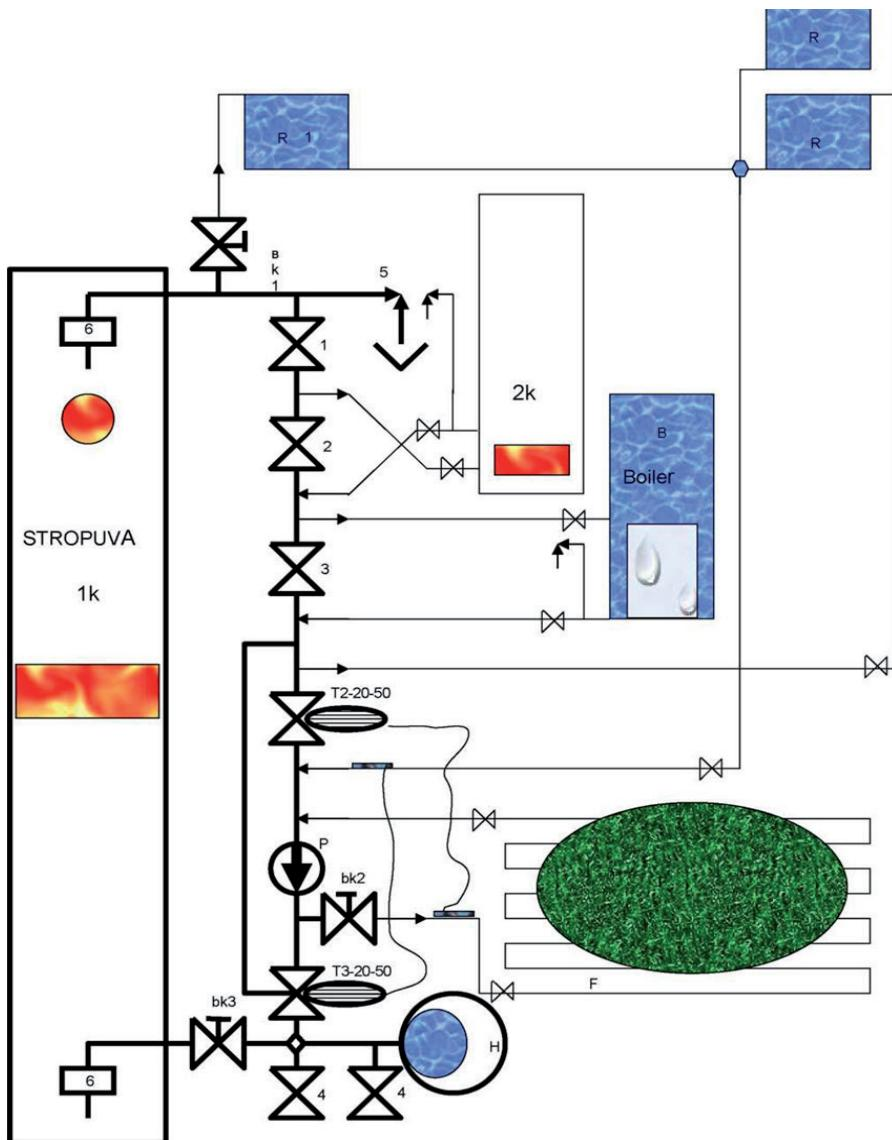

Figure 8
6.1 DESCRIPTION OF DIAGRAM OPERATION (figure 8)